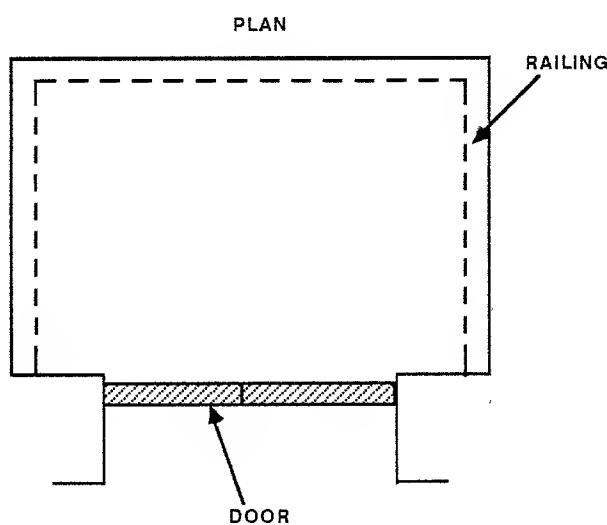

Figure 2-43. Elevator
2. Be sure to consider the space taken by elevator railings and doors (figure 2-43). If railings are not removable, measure to railing not to wall.